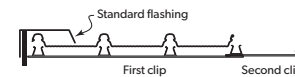

FIGURE 9.1.3:
2. Position the first clips on each support by placing onto the support nearest the roof edge. (Figure 9.1.3).